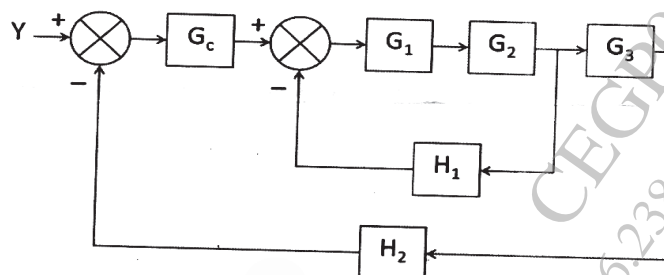

Figure 1
- Q4)** a) Reduce the block diagram in Figure 1 and determine the transfer function:  $X/Y$ . [8]